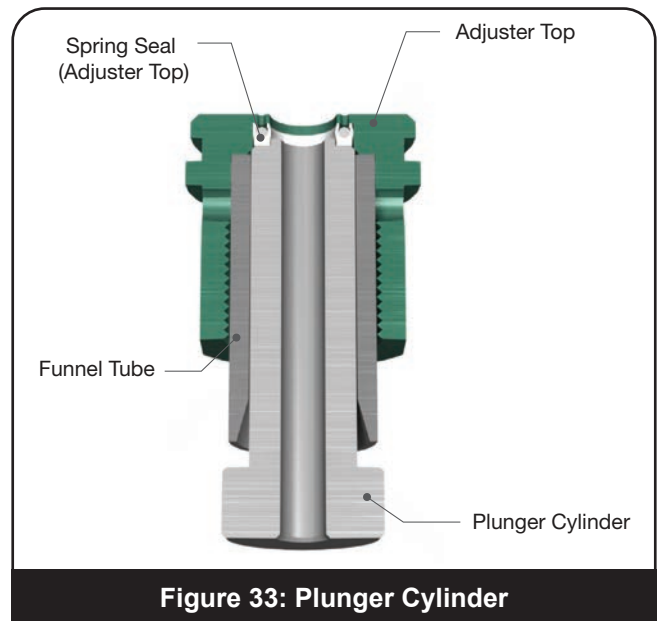

Figure 33: Plunger Cylinder
- viii. Push down on Plunger cylinder to insert Spring Seal (Adjuster Top) into Adjuster Top as shown in Figure 33.